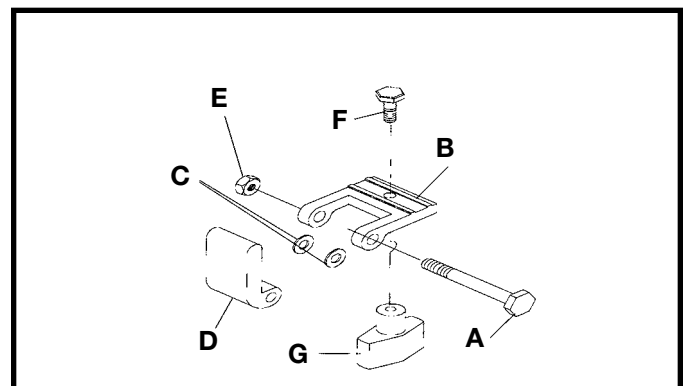

Fig. 28
1. Insert 1/4-20x2" bolt (A) through hole into one side of bracket (B) Fig. 28.
2. Place one washer (C), on bolt (A), and slide bolt through flip stop (D) Fig. 28.
3. Place the other washer (C), on bolt (A), and slide bolt (A) through other side of bracket (B) Fig. 28.
4. Screw nut (E) onto bolt (A) and tighten.
5. Insert bolt (F) through bracket (B) as shown and screw knob (G) onto bolt (F) approximately 3 complete turns. Fig. 28.